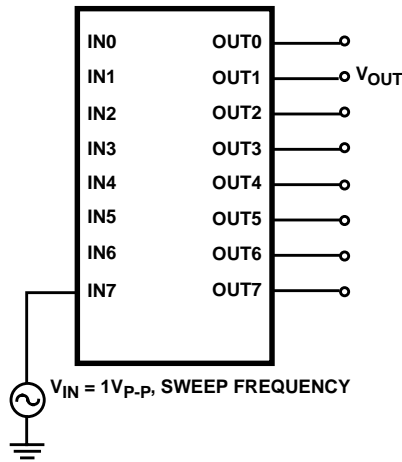
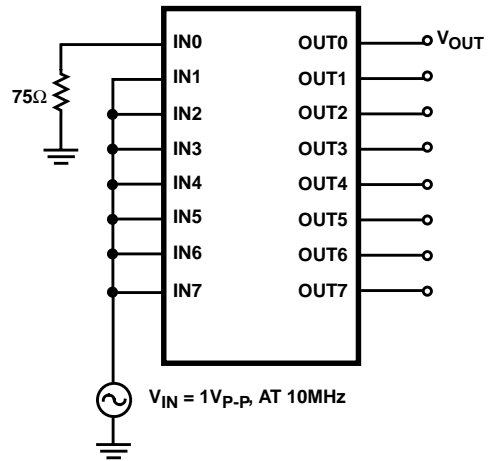

FIGURE 1. -3dB BANDWIDTH (NOTES 7-10)
FIGURE 4. ALL HOSTILE CROSSTALK (NOTES 10, 15, 17-19)
- See AC Test Circuits (Figure 1 through Figure 4).